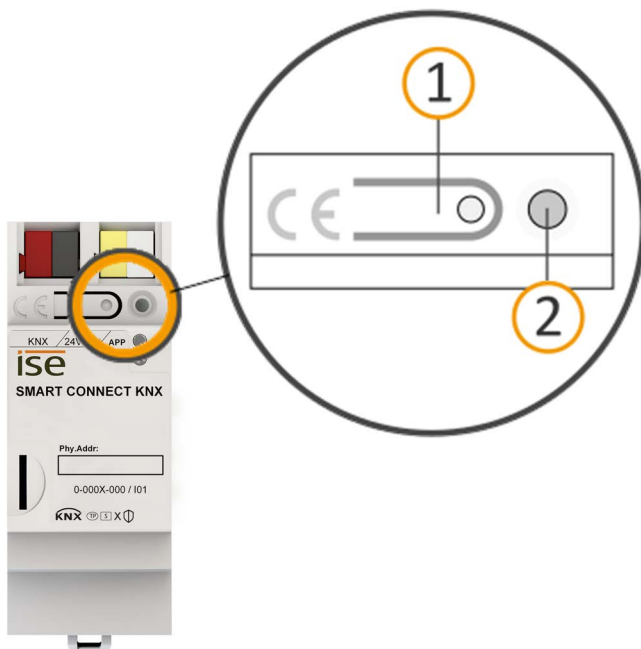

Figure 22: Programming
1. Briefly press the programming button (see figure 22, item 1). Alternatively, you can also press the programming button on the device website. The programming LED (see figure 22, item 2) lights up red.
1. Press the programming button (see figure 22, item 1) and keep it pressed while you attach the power connection terminal.